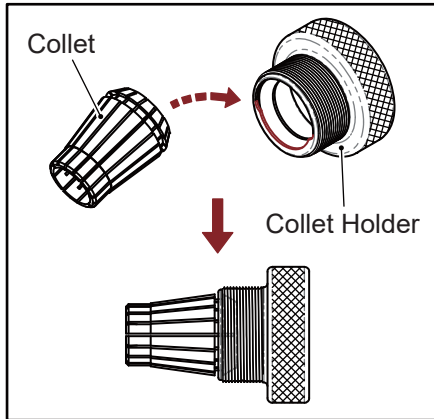

Fig. 5-1
2. Put the collet into collet holder by 45° angle. (Fig. 5-1)